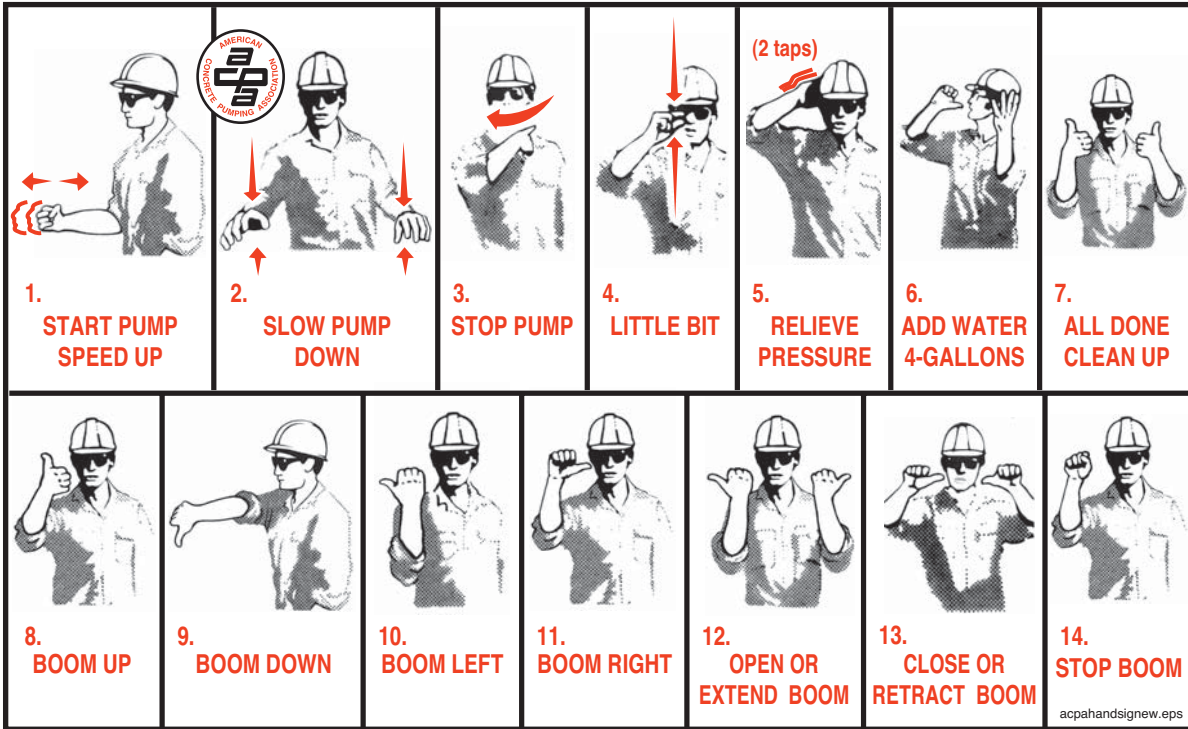

Figure 94
17.23 **⚠ WARNING** Before the pour begins, the hose man, the operator and the spotter should agree on the hand signals (Figure 94).